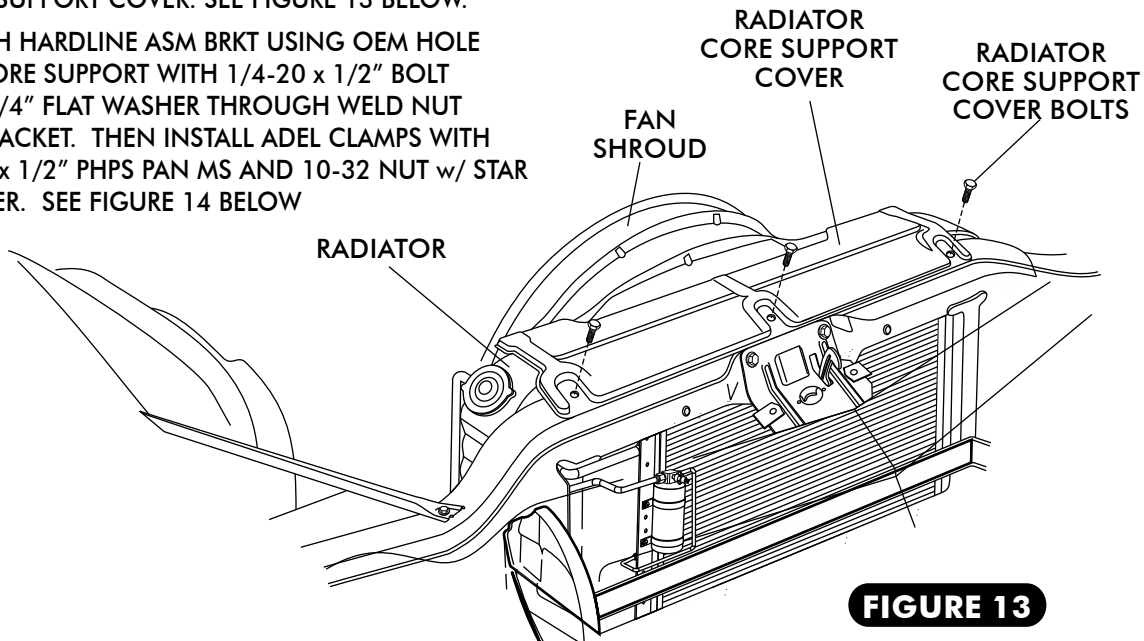

FIGURE 13
- ☐ REINSTALL OEM FAN SHROUD, RADIATOR, AND THE RADIATOR CORE SUPPORT COVER. SEE FIGURE 13 BELOW.